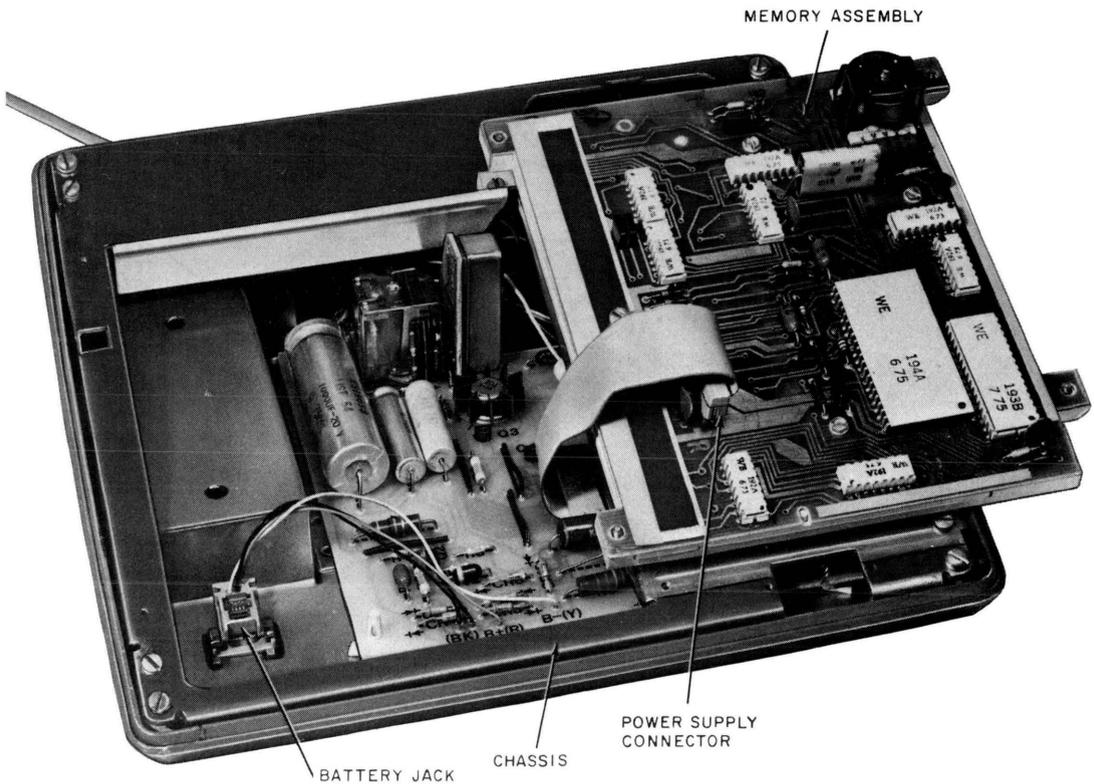

Fig. 4—870B1M Dial, Internal View
- (4) Rotate the left edge of the memory upward and over dial area as shown in Fig. 4.
- (5) Disengage the connector(s) by pulling on them perpendicular to the printed wiring board.
- (6) Replace the memory by engaging the dial connector (2870B1M only) first. The connector(s) are keyed, one position is filled and should fit over the vacant position in the row of pins. The gray power supply cable should not be twisted.
- (7) Reassemble dial.
- (8) Reconnect AC power.
- (9) Test per 3.06 or 3.07 as required.